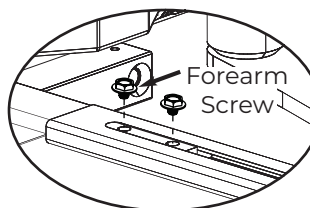

Figure 31
- While holding arm in position, secure forearm to adjusting tube with forearm screw. (Figure 31)